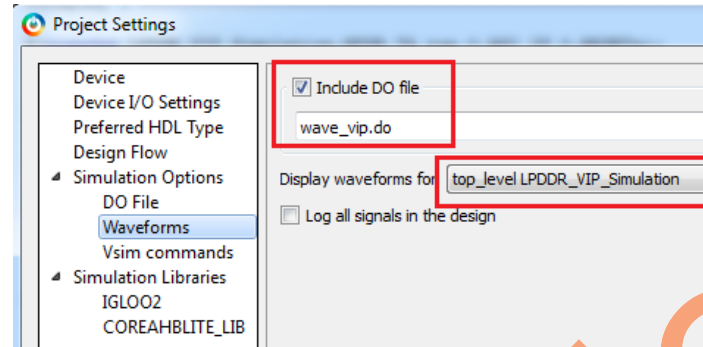

Figure 14 • Project Settings
14. Select the **Display waveforms for** as **top_level LPDDR_VIP Simulation**. Figure 14 shows the **Project Settings** window.